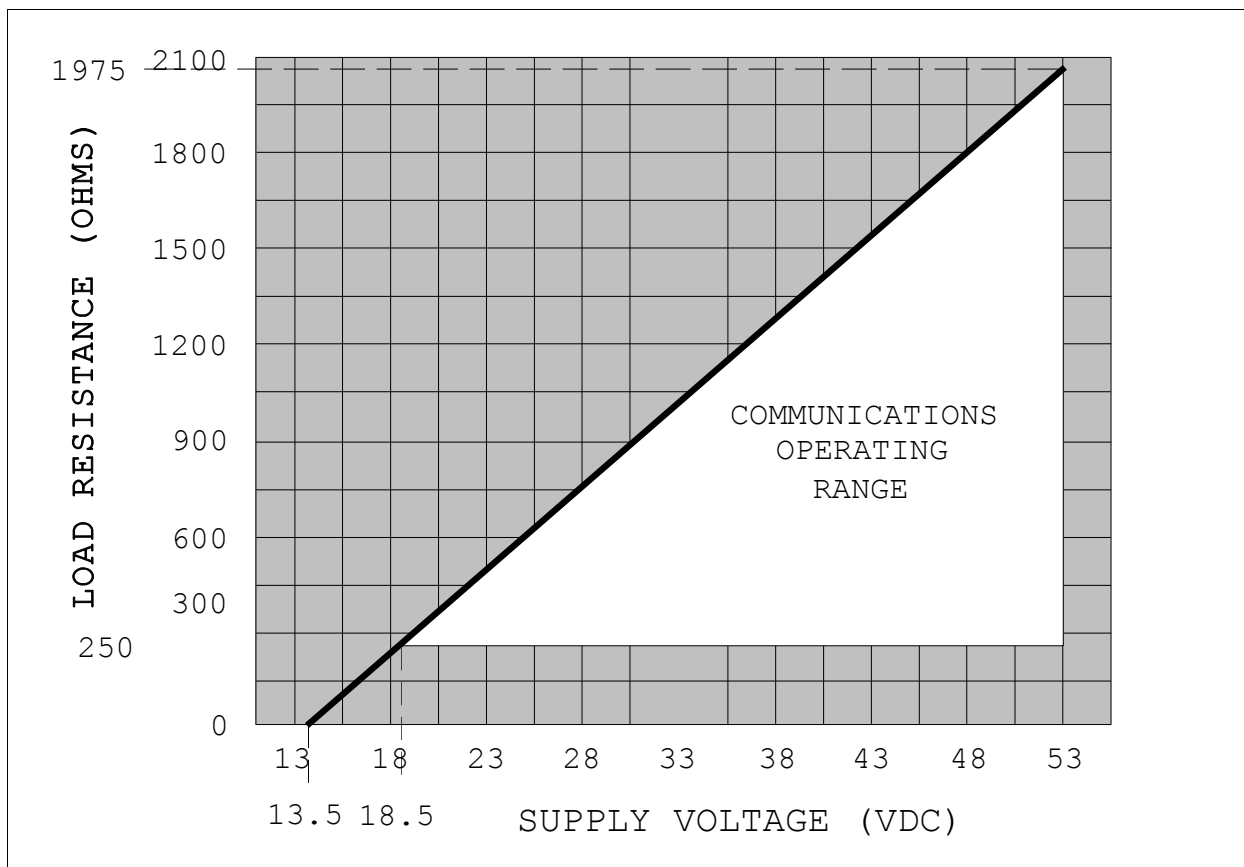

Figure 1-1. Supply Voltage Requirements
Loop load limits	Refer to Figure 1-1
The signal wiring supplies all power to the transmitter. The power supply limits are 13.5 Vdc to 53 Vdc (13.5 to 42 Vdc for agency certified installation). The minimum supply voltage (Figure 1-1) is determined by the loop resistance (R) as follows: